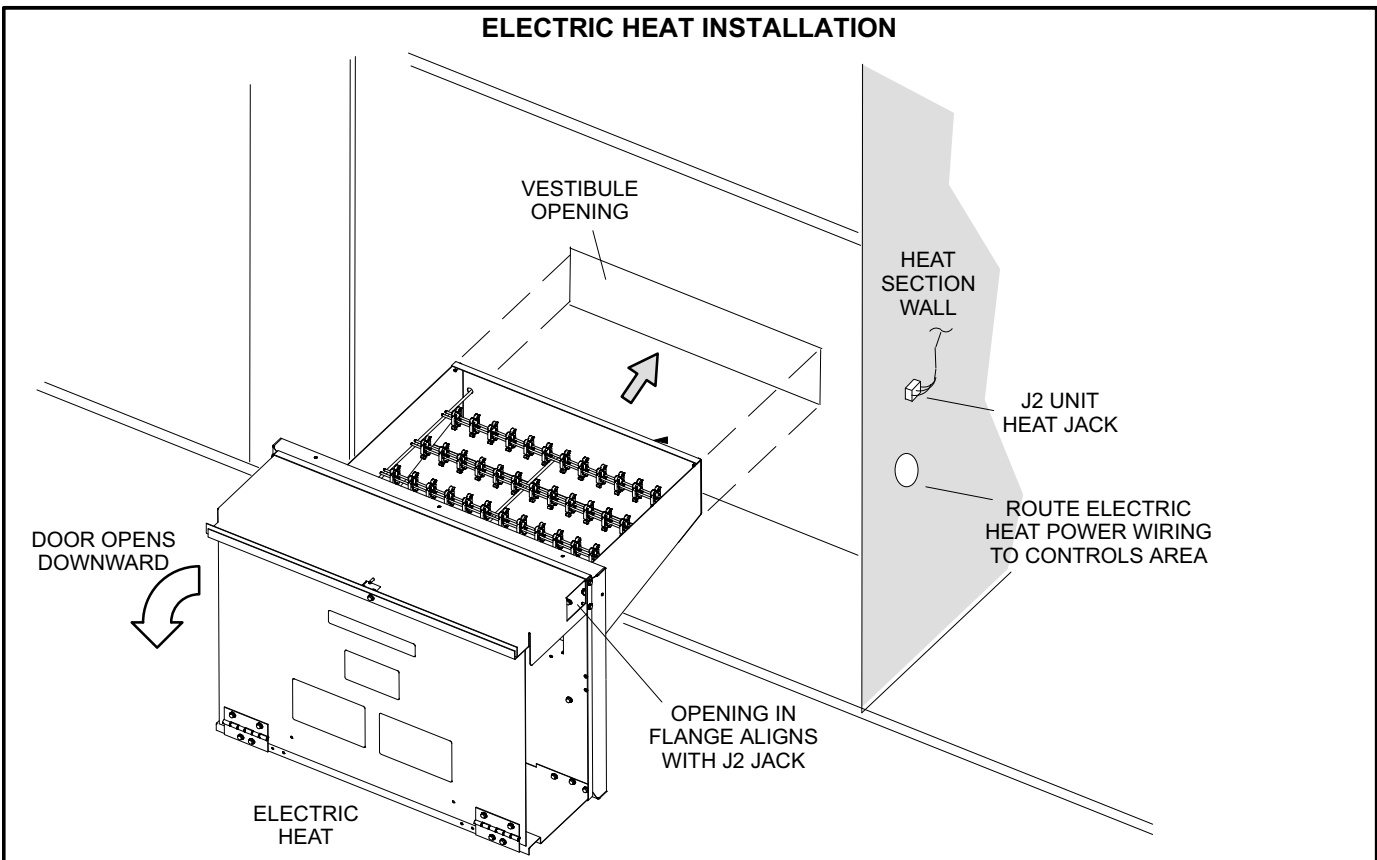

FIGURE 2
- 3- Disconnect P2 jumper from J2 unit electric heat jack on heat section wall. See figure 2.
- 5- Install the electric heat assembly in unit as shown in figure 2.
- 7- Connect P2 from electric heat assembly to J2 in heat section wall. See figure 2.